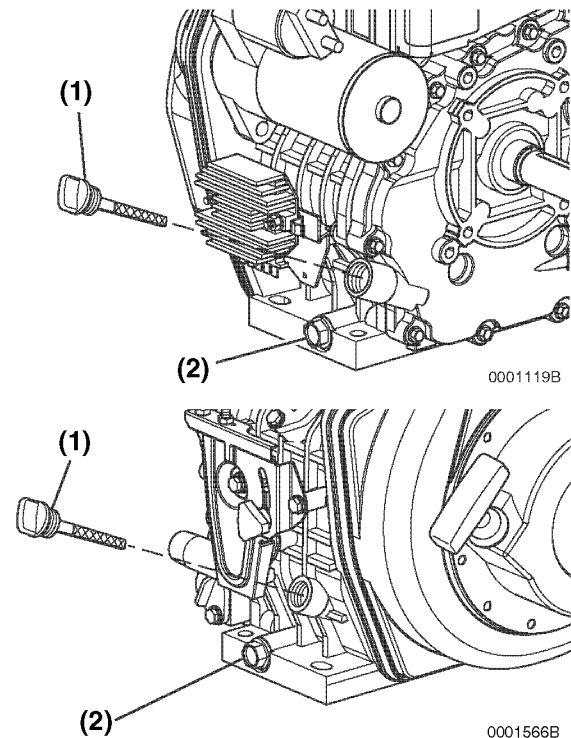

Figure 5-3
5. Remove the drain plug located on the bottom of the cylinder block (**Figure 5-3, (2)**). Allow oil to drain.
6. Remove the oil cap / dipstick (**Figure 5-3, (1)**) to allow the engine oil to drain more easily.
7. After all oil has been drained from the engine, reinstall the drain plug (**Figure 5-3, (2)**) and tighten to 173 - 208 lb-in. (19.6 - 23.5 N·m, 2.0 - 2.4 kgf·m).